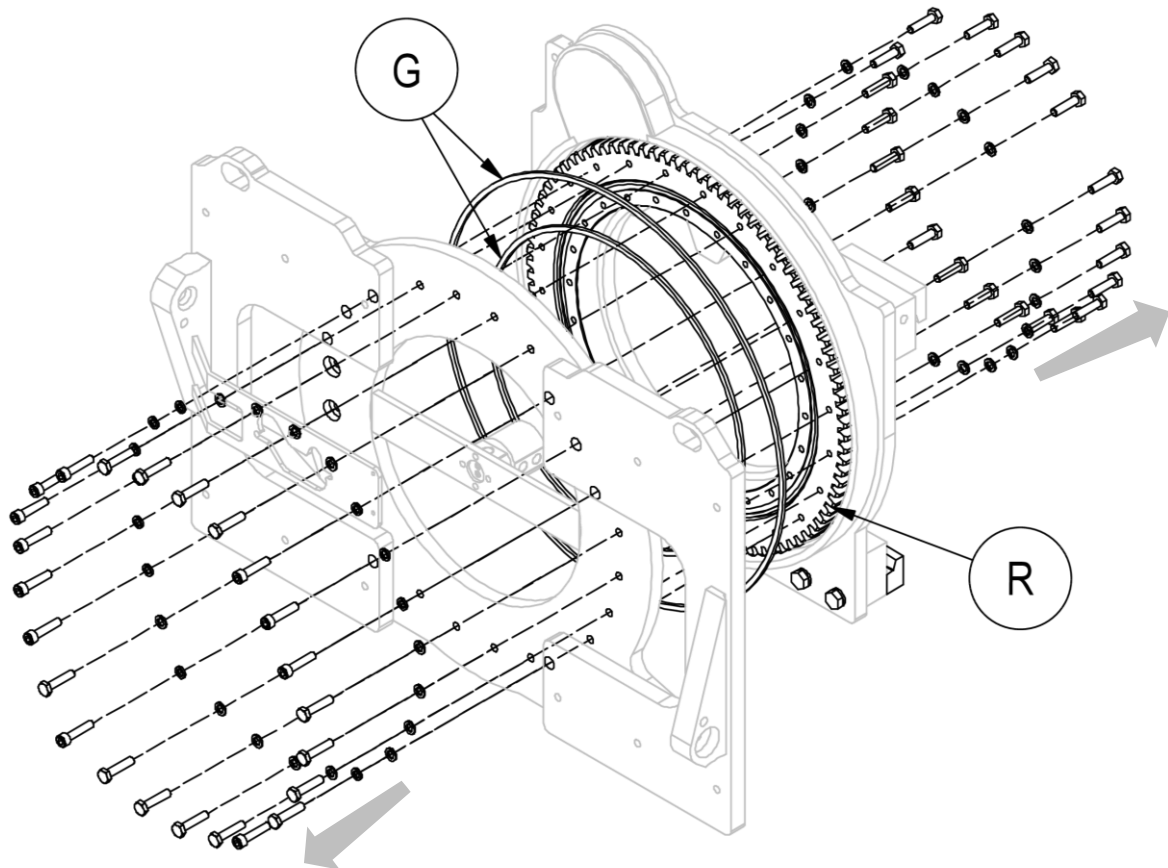

Figure 35
5. Remove the front part of the rotating body, ensuring that all parts are supported to carry out the procedure in safety (see *Figure 35*).
6. To remove the slewing ring **R**, the bolts on the rear of the equipment must also be removed (see *Figure 35*).